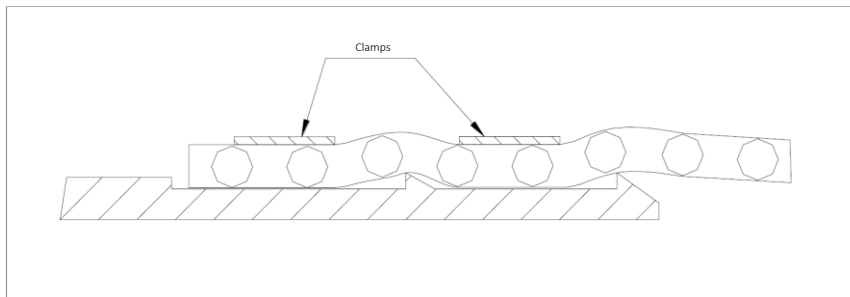

Figure 7
- Correctly positioned clamps: right in the center of the space between the grooves (Figure 7).